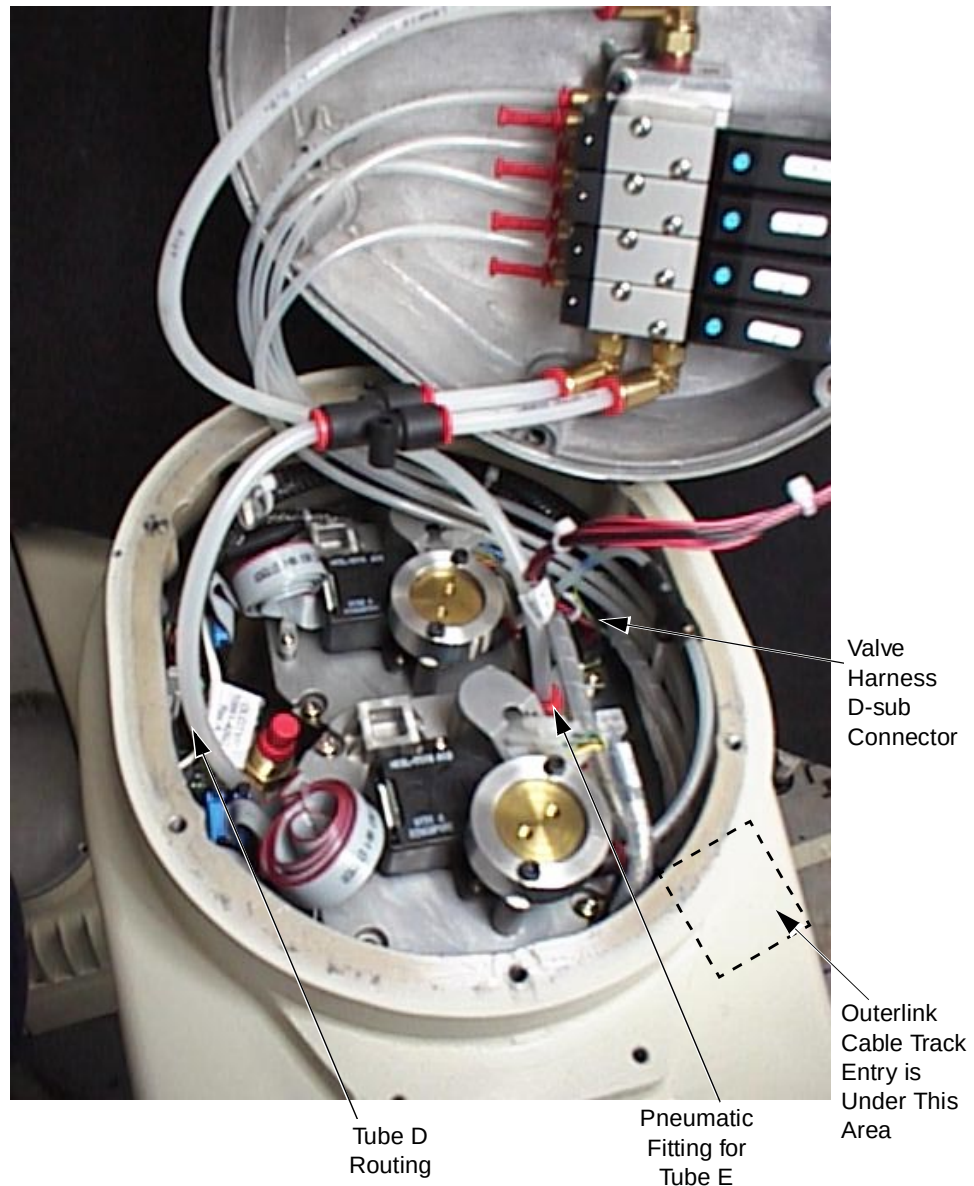

**Figure 7-5. Tube and Cable Routing**
12. Starting from the outer link housing access port, route tubes A1 - A4 through the left side cable tray in the outer link (see Figure 7-5). Bring the tubing up through the tower bracket, one pair on each side of the bracket. Route the air lines through the quill (see Figure 7-6).
13. Route tubes A1 - A4 along the outer link inside wall so that the tubing will **not** interfere with existing wiring. Use the 4-inch cable-ties (P/N 27300-00023) as required to hold the tubing together (see Figure 7-5).
16. Connect the D-sub connector on the solenoid valve harness to the connector on the outer link left bulkhead (see Figure 7-5). Route the harness along the four 5/32 inch pneumatic tubes. Secure the captive screws on the D-sub connector.
17. Route tube D as shown in Figure 7-5.
The 24 VDC IC drivers are located on a PC board under the joint 1 cover. Each driver is designed to handle a 24 VDC solenoid or motor at a nominal 75 mA each. The total current drawn from all four drivers must not exceed 300 mA. If you do not use the Adept solenoid valve option, you may connect to these drivers using a 9-pin D-Sub male connector. See Table 7-4 for the connector pins and signal names and Figure 7-5 for location of the connector.